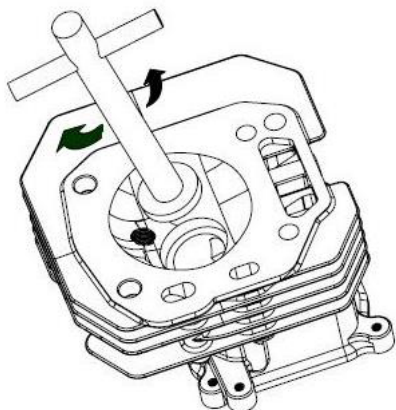

Figure 4-1: Valve Seat Cutting Tool Shown
1. See Figure 4-1. Use the indicated special tools when required.